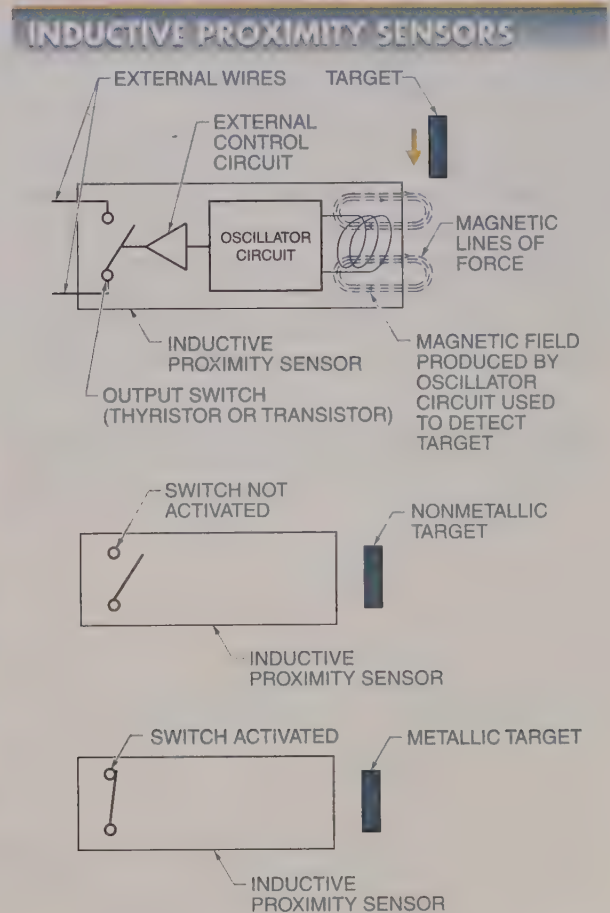

Figure 21-29. Inductive proximity sensors use a magnetic field to detect the presence of a metallic target.
field that varies in strength depending on whether or not a metallic target is present. The generated alternating field operates at a radio frequency (RF). See Figure 21-29.